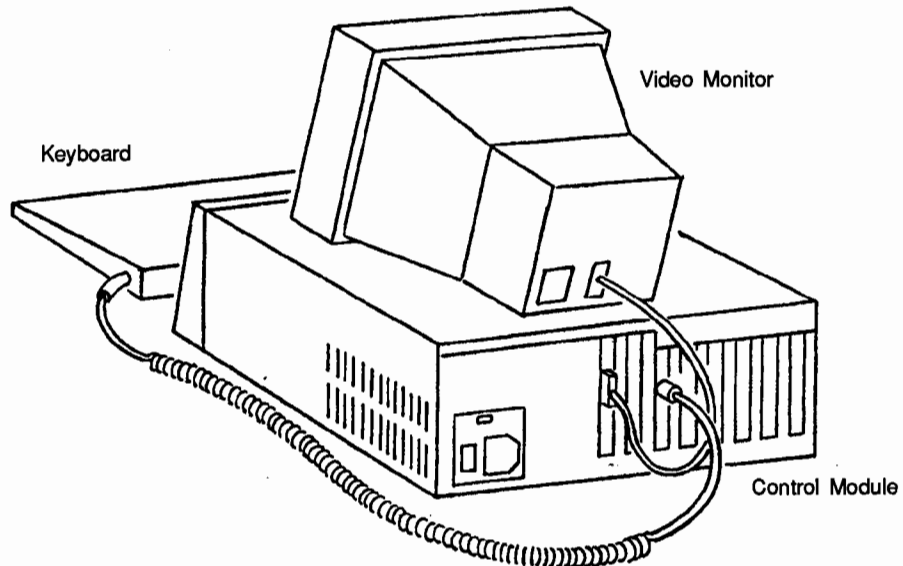

Figure 2-3. Connecting the Keyboard and Video Monitor to the Control Module
1. Plug the keyboard cable into the connector on the rear panel of the control module. Figure 2-3 shows a typical connection.